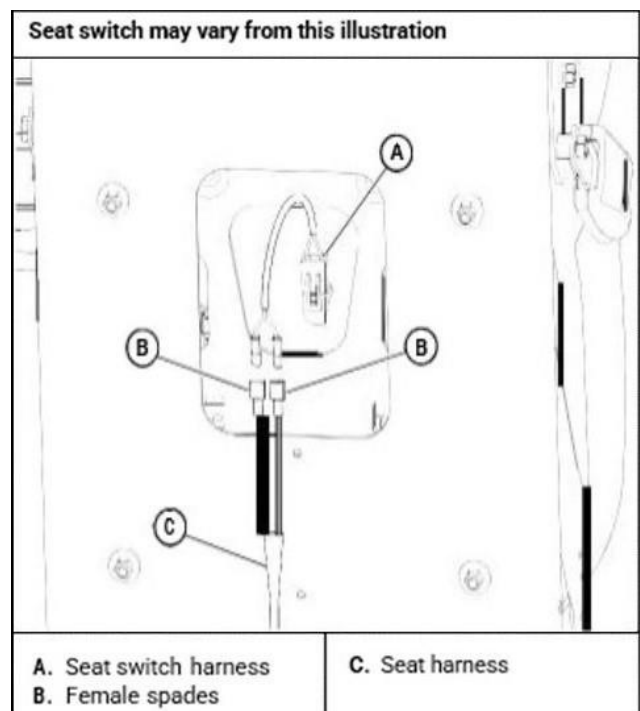

Figure 1
- Bypass the seat switch by connecting the two female spade connectors together. [Figure 1]
- Reconnect them to the seat switch. This must be completed so that the safety circuit is functioning properly. [Figure 1]